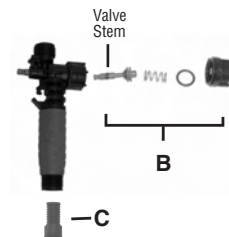

Figure 3
- 3) Remove the retaining nut (o-ring attached), spring, and valve stem (B) (Figure 3). Replace worn parts. Lubricate the O-rings and reassemble by reversing the steps above. Place the handle groove in the slotted area of the valve stem and make sure the locking clip is positioned in the neutral position (see "Helpful Spraying Information" section). Insert the retaining pin. Push down on the handle a few times to distribute the lubricant evenly. Check filter (C) in end of shut-off valve for debris. Remove filter and flush with water to clean out.